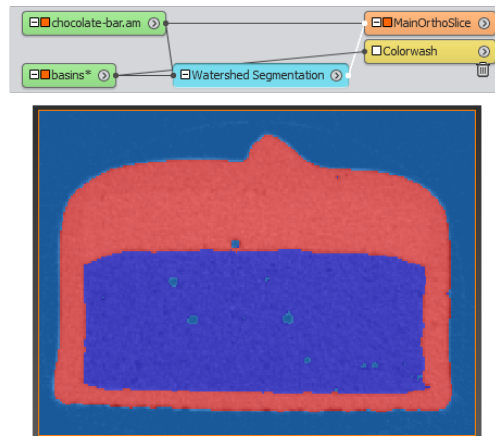

Figure 6.77: The *Watershed Segmentation* wizard completed.
- Simply press *Apply* to trigger computation (see Figure 6.77).